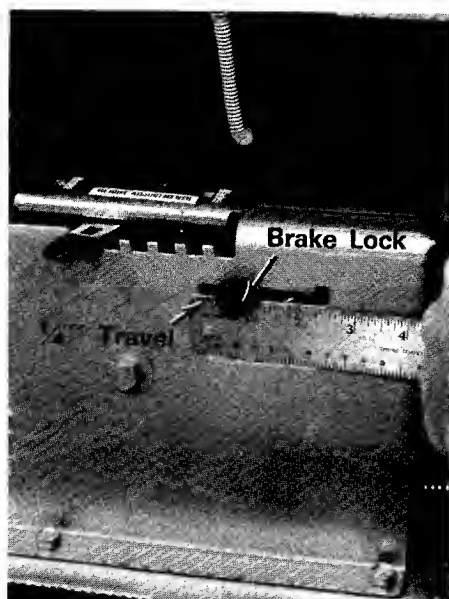

FIGURE 26.
2. If the adjustment is correct the brake lock should move $\frac{1}{4}$ inch. (See figure 26.)